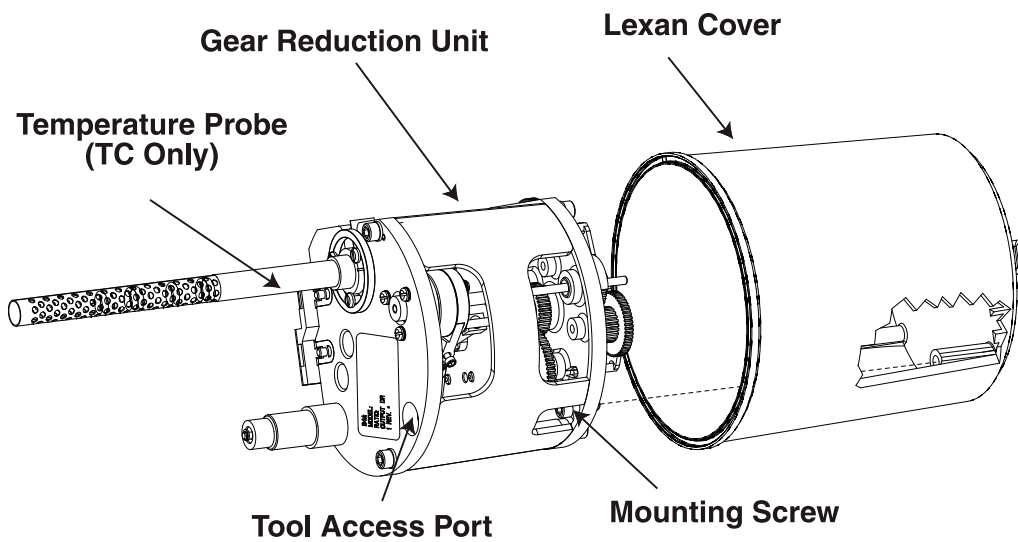

Figure 18 - Exploded view of Gear Reduction Assembly and Lexan® Cover.
(Refer to Figure 18)
Use a 9/64" Allen wrench to remove the mounting screw holding the accessory unit in the Lexan® cover. The screw can be accessed through the Tool Access Port as shown in *Figure 18*.
Replacing the Gear Reduction Unit in Lexan Cover (Refer to Figure 18)
1. Remove CTR or TC Accessory from the meter. To do this, remove the four screws securing the slip flange, and remove the slip flange. Gently pull the accessory housing assembly off the meter. Remove the screws and slip ring. Then, remove the CTR or TC accessory from its housing by loosening the screw inside the housing. As shown in *Figure 18*.
1. Remove the CTR Accessory from the meter. To do this, remove the four screws securing the slip flange and remove the slip flange. Gently pull the accessory housing assembly off the meter. Remove the screws and slip flange. Then, remove the CTR accessory from its housing by loosening the screw inside the housing. See *Figure 18*.